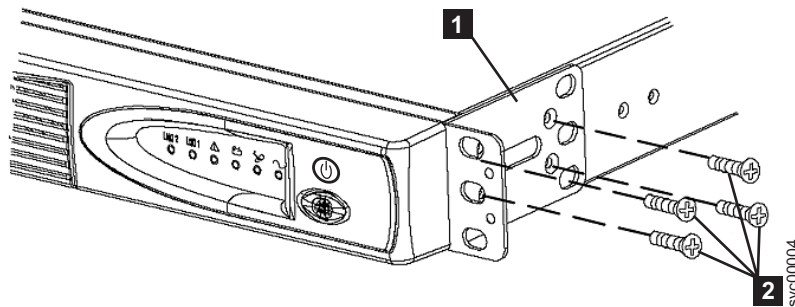

Figure 27. Installing the support rails for a 2145 UPS-1U into the rack
3. Attach the long side of a mounting bracket **1** to each side of the 2145 UPS-1U using four M3 × 6 screws **2** for each bracket, as shown in Figure 27.